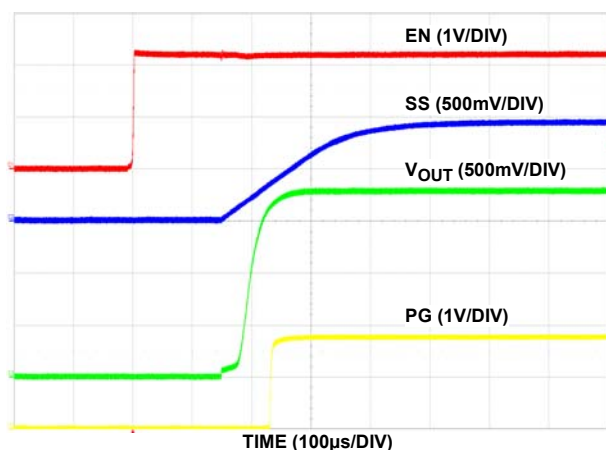

FIGURE 15. ENABLE START-UP SS CAP 1nF
If the current limit for inrush current is acceptable in the application, do not use the soft-start (SS) feature (leave the SS pin open). The soft-start circuit controls the rate at which the output voltage comes up to regulation at power-up or LDO enable. The external soft-start capacitor always gets discharged to ground pin potential at the beginning of start-up or enabling. After the capacitor discharges, it will immediately begin charging by a constant current source. The discharge rate is the RC time constant of R_{PD} and C_{SS} . Refer to Figures 15 through 19 in the “Typical Operating Performance Curves” beginning on page 8. R_{PD} is the ON-resistance of the pull-down MOSFET, M8. R_{PD} is typically 323Ω.